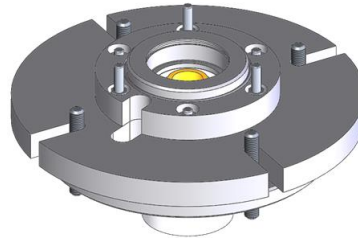

Figure 29: Bearing Housing installed
- Fit the Bearing Housing to the Fixing Plate using the Bearing Housing Captive Bolts (Figure 29).